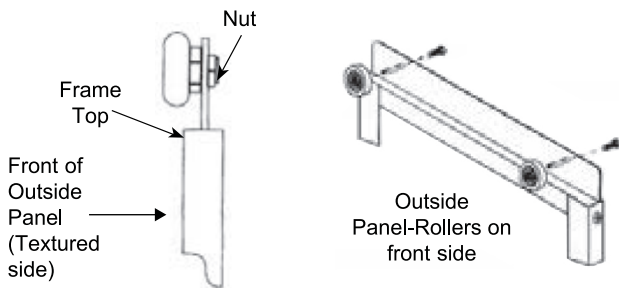

Figure 7
- A. Use two M4x10mm HWH Screws (#17) to attach two Rollers (#11) to the top of the Outside Framed Door Panel (#5) with the Rollers (#11) on the front surface of the Top Rail (#10). The metal parts (the Nut side) should be against the frame, as shown in Figure 7.